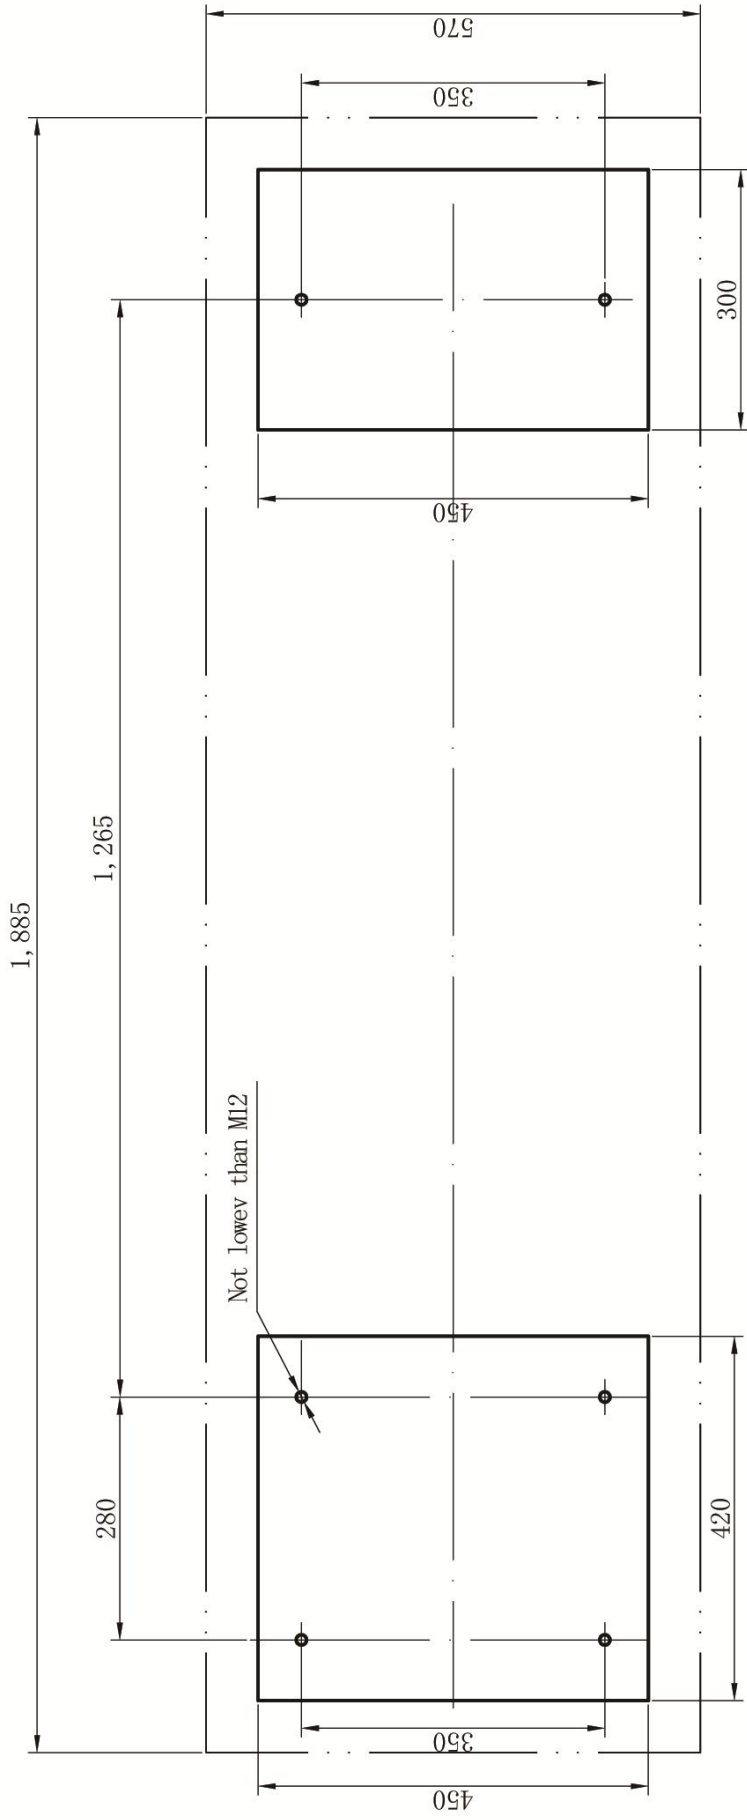

Fig3 Basic screws distribution
- 3、 The fixed dimensions of the machine is shown in Fig3. The lathe stand cabinets should be fixed firmly to the base.